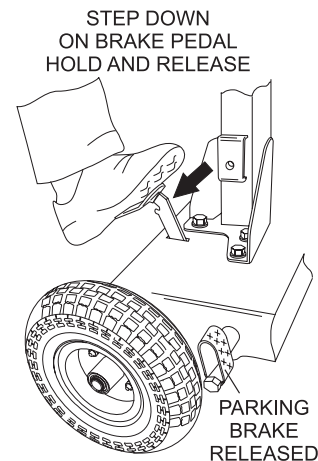

Figure 22. Parking Brake (Release Position)
8. Press down on the top of the brake pedal (Figure 22) and hold, then release. This action will dis-engage the brake mechanism and allow the GloBug to be moved.